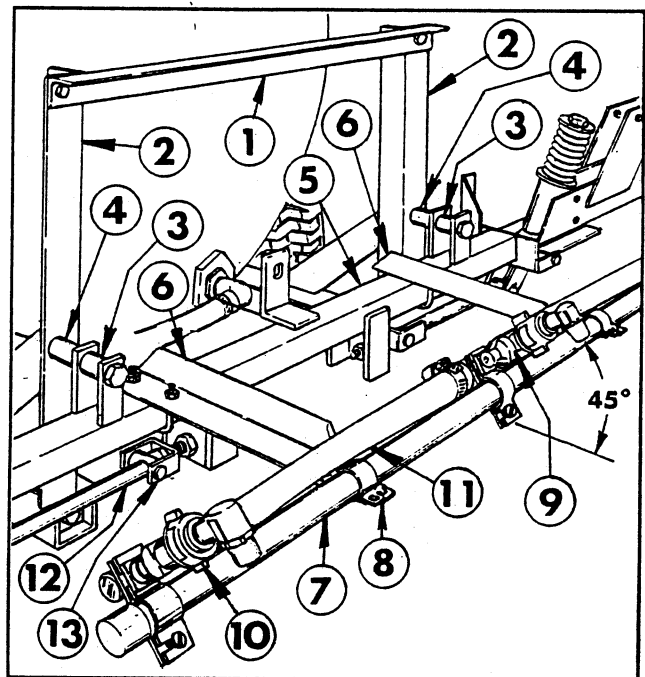
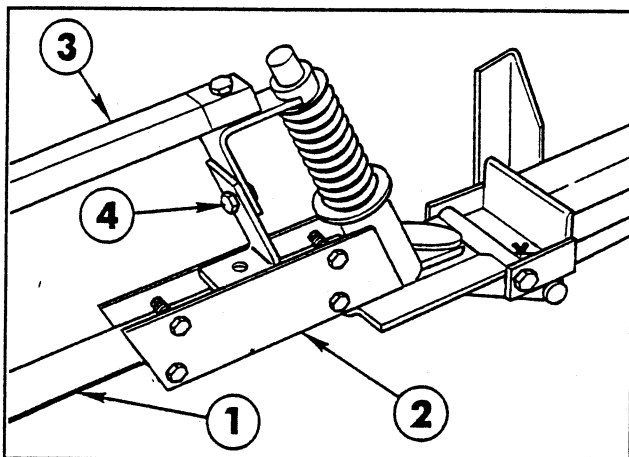

FIG. 10
FIG. 11
- Position the Spacer Tubes between the Boom Mount uprights and the lugs on the Main Frame Tube. Use two 1/2" x 4" hex hd. cap screws and lock nuts to secure the Main Frame Tube to the uprights. See FIG. 10.
- Position the two (2) Center Boom angles on the Main Frame and secure them to the Main Frame tube with two (2) square U-bolts, four (4) flat washers and hex nuts. See FIG. 10.
- Center and attach the Center Boom Pipe to the two Center Boom Angles with two (2) clamps, 3/8" x 1" cap screws, flat washers and lock nuts.
8. Loosely attach the triple barb Nozzle Assembly in the approximate center of the Center Boom Pipe. For the most uniform spray coverage, position all Nozzle Assemblies at a 45° angle as shown in FIG. 10. Tighten clamp screw to secure the Nozzle to the Boom Pipe.
10. Attach the two Strut Assemblies to the two adjustable clevis' found on each side of the Main Frame tube with two (2) 1/2" x 2" clevis pins and two (2) 1/8" x 1" cotter pins.
11. Insert the plugged end of an Extension Boom Pipe into the Pivot Assembly and secure with four (4) 1/4" x 1-1/4" cap screws and lock nuts. See FIG. 11. Repeat on the opposite side to assemble the other Extension Boom.
15. Adjust the Booms to a level position by adjusting the jam nuts on the adjustable clevis assemblies (See FIG. 10) to the desired position, then tighten the end nuts against the Main Frame plate.